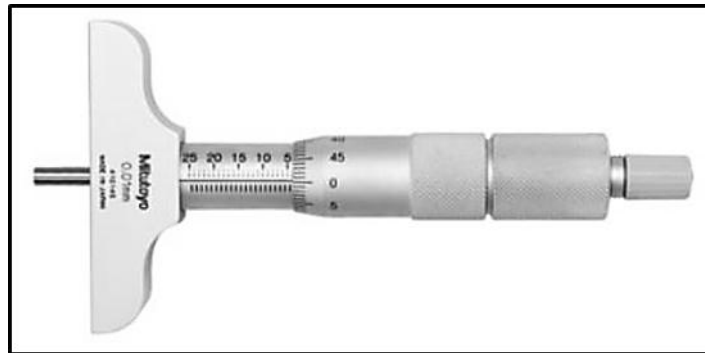

FIGURE 4.6
4.6 Identify the type of precision measuring tool in FIGURE 4.6 below.